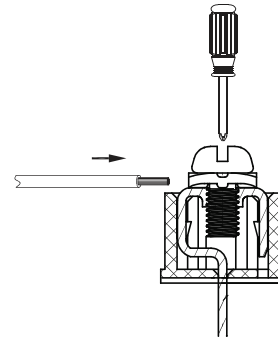

Fig. 18 —Connecting Communication Wire to Outdoor Unit Communication Terminal
3. Use a suitable screwdriver to fix the communication wire on the outdoor unit communication terminal as shown in Fig. 18 below.